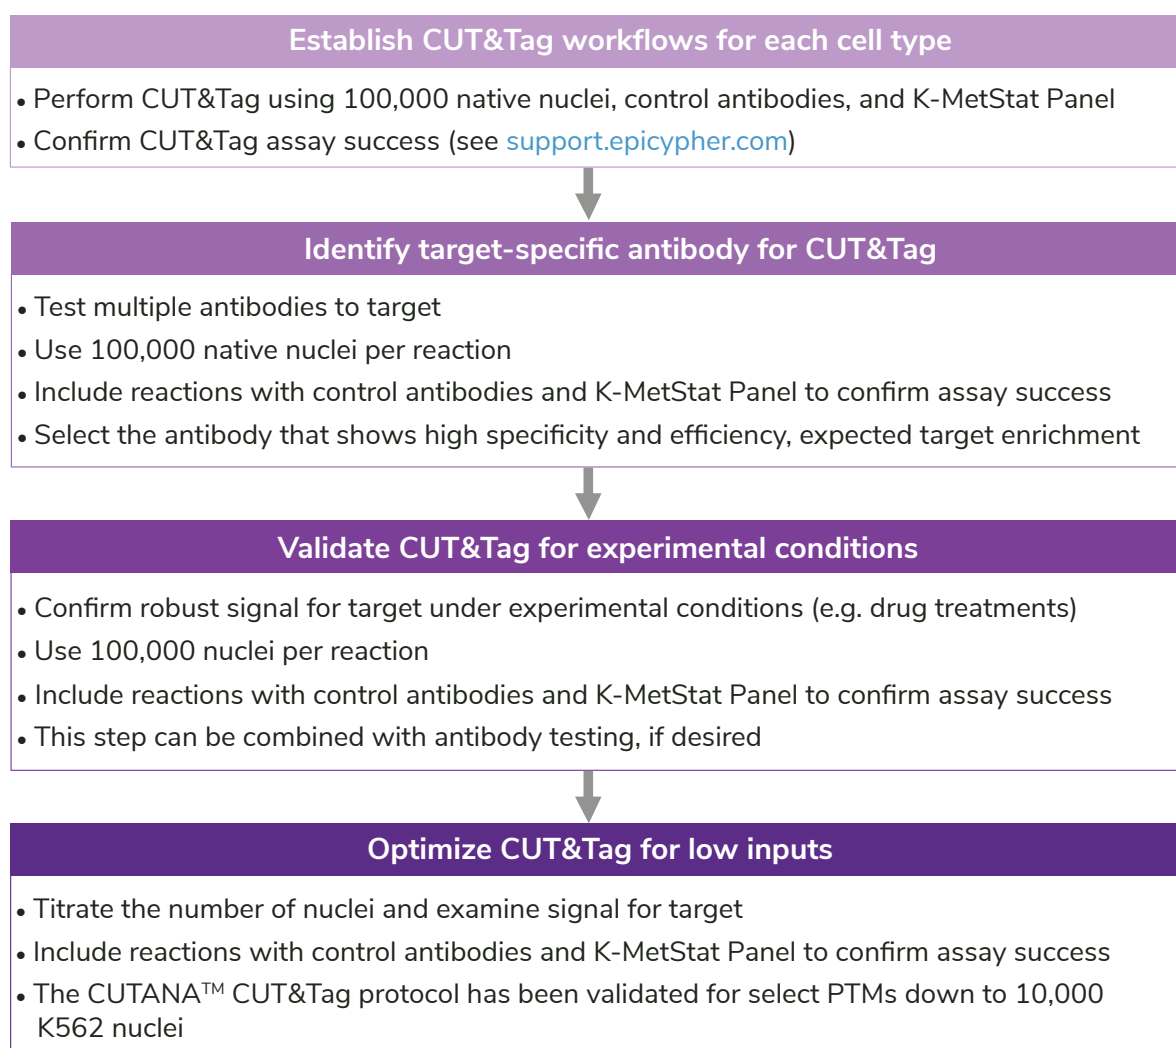

FIGURE 5
- Test histone PTM antibodies from multiple vendors (Figure 5). Select the antibody that gives the best balance of expected target enrichment, low background, and high yields.
- CUT&Tag optimization, including antibody validation, is reviewed in Figure 5. For further guidance, visit support.epicypher.com.